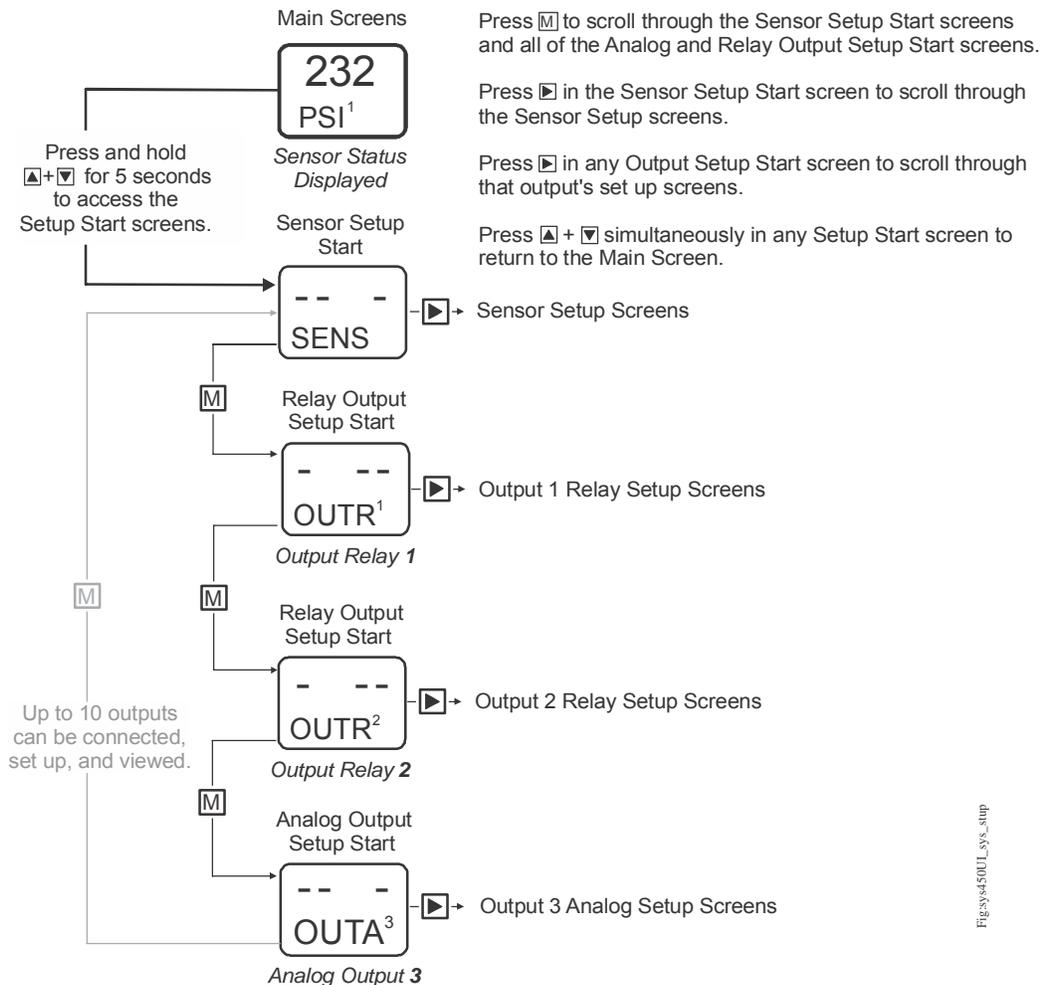

Figure 18: Accessing the Setup Start Screens in the System 450 UI
1. In the **Main (Sensor Status)** screen, press **▲** and **▼** simultaneously and hold for 5 seconds. The **Sensor Setup Start (SENS)** screen appears (Figure 18).